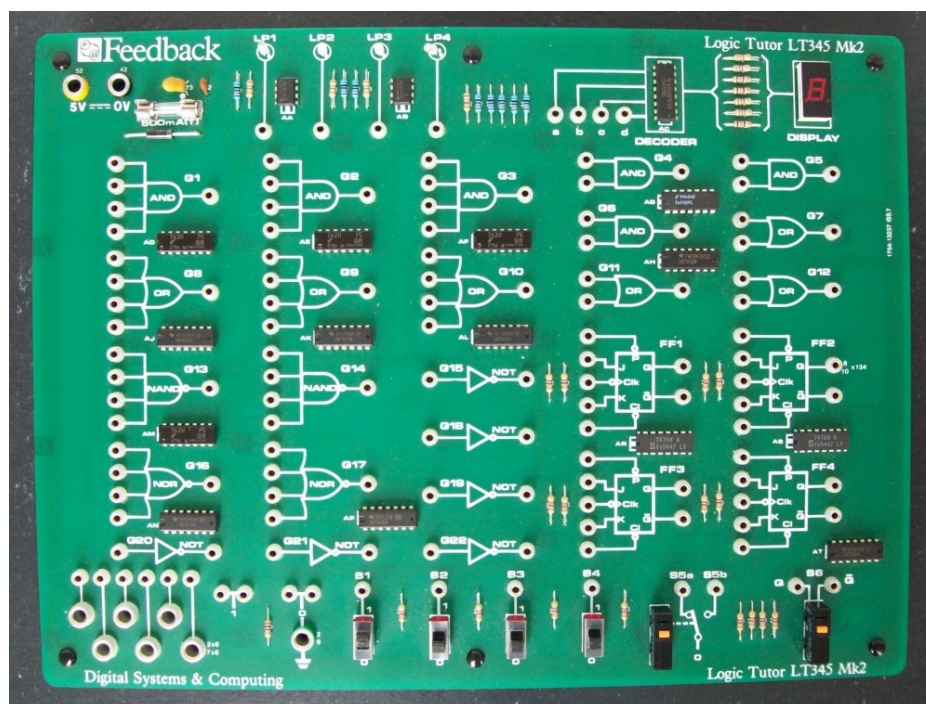
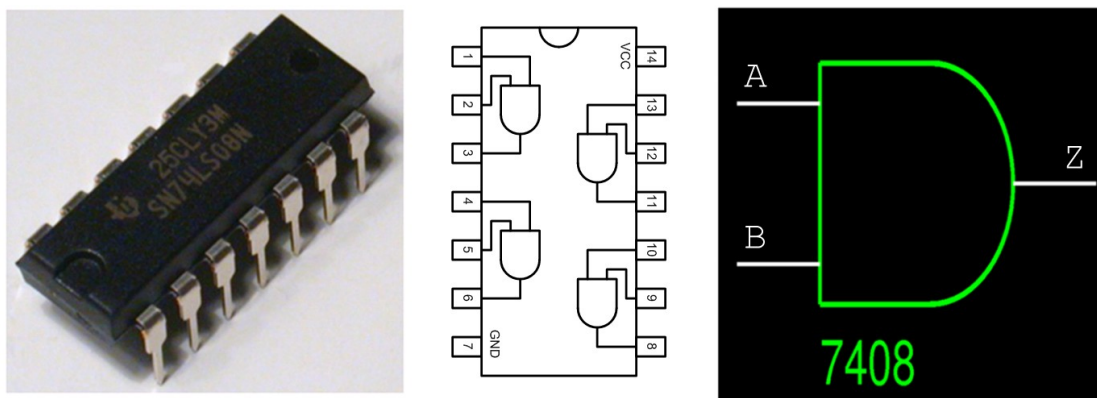

Figure 1: Feedback Logic Tutor
Figure 2: 7408 AND gate IC, 14 pin package and symbol
The aim of this lab is to demonstrate the operation of basic logic gates, their functions and how they can be combined to implement different components i.e. the fundamental building blocks of any computer. These circuits will be constructed on the Feedback Logic Tutor LT345, as shown in figure 1 (located on the shelf under your desk). Contained on this board are a number of Transistor – Transistor logic (TTL) integrated circuits (IC), implementing a range of logical functions e.g. AND gates as shown in figure 2. Each IC is soldered into the printed circuit board (PCB), its inputs and outputs externalised using PCB mounted sockets.